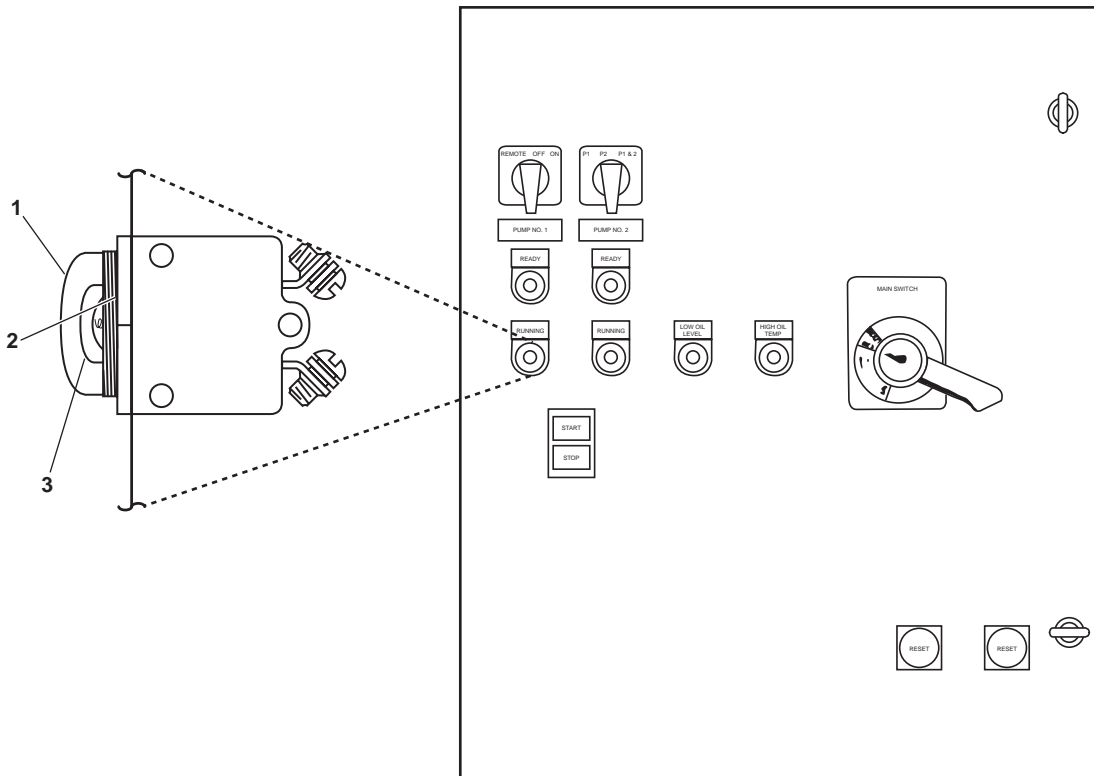

Figure 1. Central Hydraulic Power Unit Motor Controller
1. Unscrew and remove the light indicator lens cap (figure 1, item 1) from the indicator light housing (figure 1, item 2).
2. Unscrew and remove the lamp (figure 1, item 3) from the indicator light housing (figure 1, item 2).
1. Thread the lamp (figure 1, item 3) into the indicator light housing (figure 1, item 2) until it is finger tight.
2. Thread the lens cap (figure 1, item 1) into the indicator light housing (figure 1, item 2) until it is finger tight.